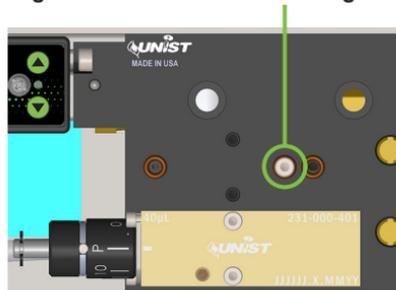

Figure 37: Plug fluid inlet hole
3. The middle hole behind the pump can be temporarily plugged with one of the pump-mounting bolts to minimize fluid leakage. See Figure 37 below for more detail.